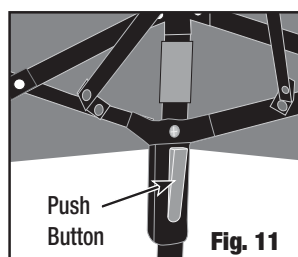

Fig. 11
- Press the push buttons found at upper corners of the frame. (Fig. 11) Collapse shelter frame and store in carry bag.